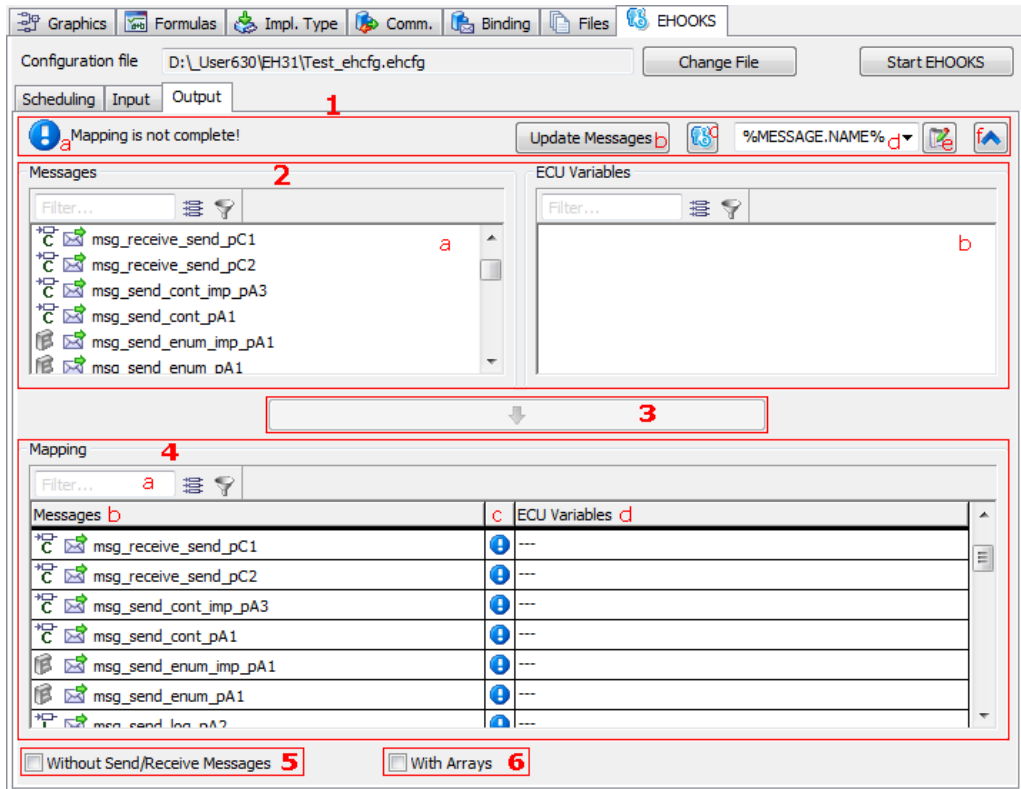

Figure 3.14: "Output" tab
- To select ECU Write Hook variables, go to the "Output" tab (Figure 3.14 on page 41).